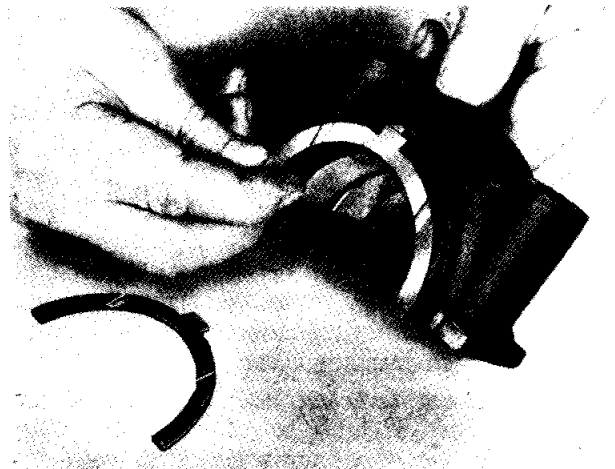

Fig. 34 Fitting the Lower Thrust Washer to the Centre Bearing Cap.
- (iv) Thread the two top halves of the thrust washers at the side of the centre main bearing between the crankshaft and the cylinder block. It is essential that the white metal side is toward the crankshaft. Fit the thrust washers, one either side, to the centre bearing cap (Fig. 34) and lightly secure with the two bolts and lock washers to cylinder block. Fit the two remaining caps to the cylinder block with two bolts and two lock washers each.